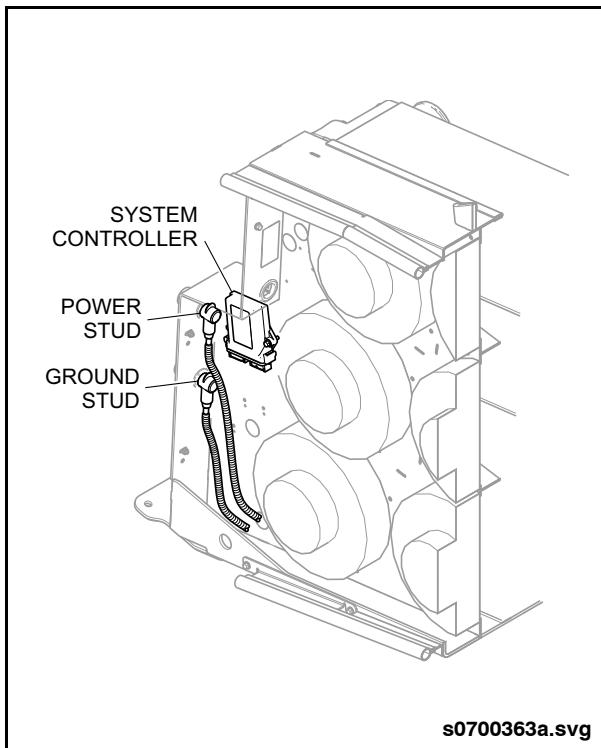

Fig. 18: Radiator Inspection
1. Locate the power and ground studs on the radiator and pull boots back from pass-through stud. See "Fig. 18: Radiator Inspection" on page 43.